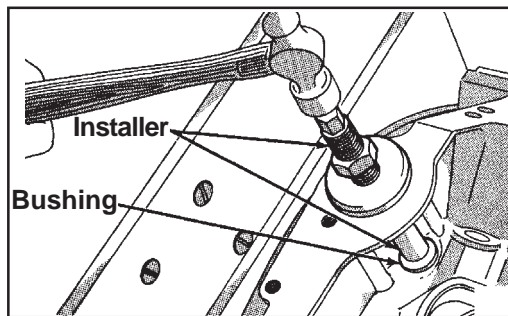

Figure 2
2. Insert the installer and bushing into the distributor hole in the engine block. Drive the bushing into position by tapping on the installer with a hammer. See Figure 2.